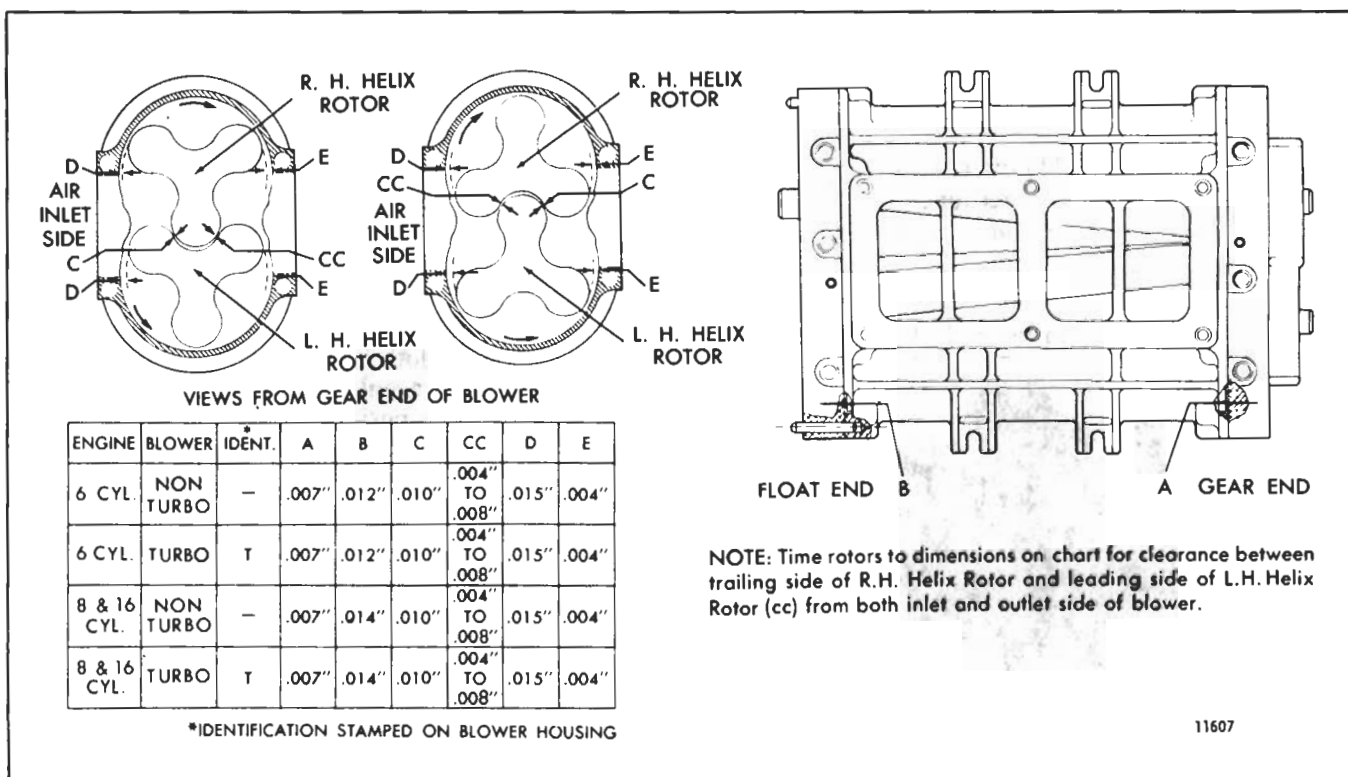
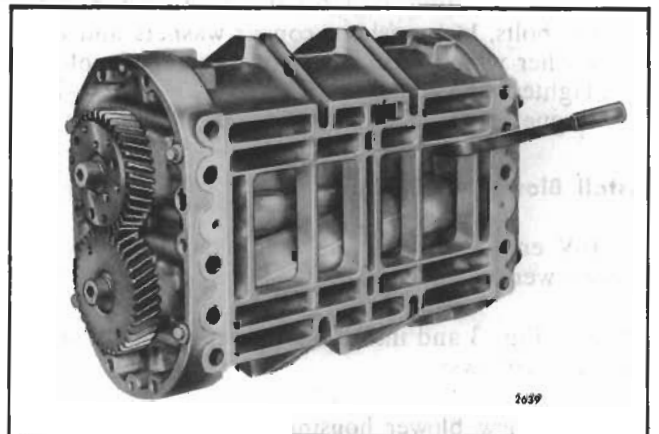

Fig. 20 - Chart of Minimum Blower Clearances
Fig. 22 - Measuring End Clearance Between Blower Rotors and End Plate
feeler gage as shown in Fig. 22. Refer to Fig. 20 for minimum blower clearances.
8. Determine the minimum clearances at points "A" and "B" shown in Fig. 20. Insert the feeler gages, as shown in Fig. 22, between the end plates and the ends of the rotors. This operation must be performed at the ends of each lobe, making 12 measurements in all. Refer to Fig. 20 for the minimum clearances.
9. Check the clearance between each rotor lobe and the blower housing at both the inlet and outlet side -- 12 measurements in all. Refer to Fig. 20 for the minimum clearances.